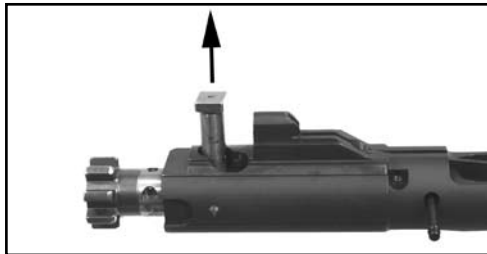

Fig. 27 – Remove the Cam Pin
e. Lift up and remove the cam pin from the shaft of the bolt head (Fig. 27).